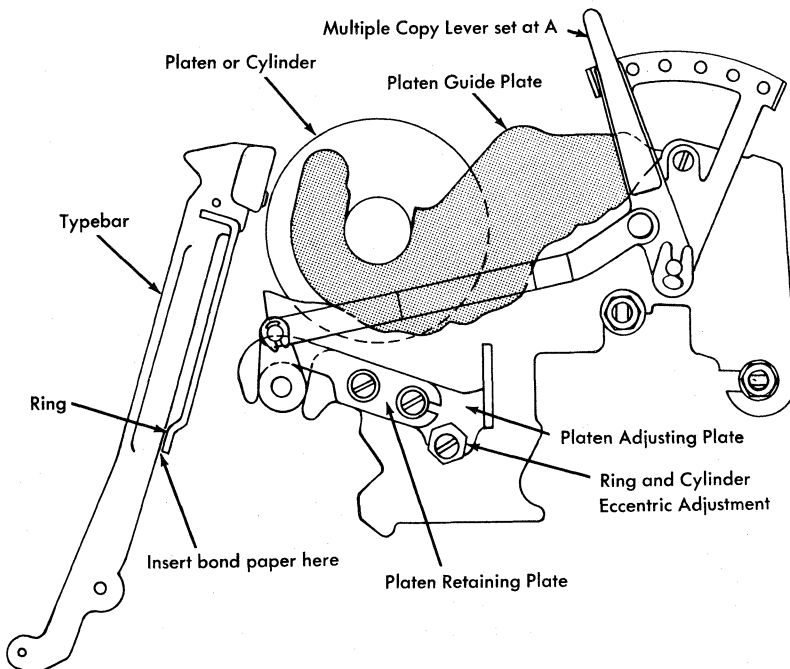
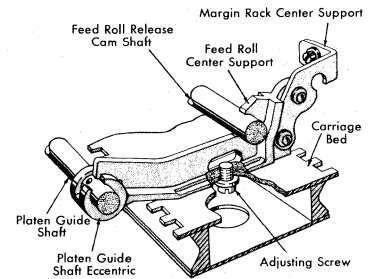

Figure 20. Platen Ring and Cylinder Adjustment
Figure 19. Feed Roll Center Support Adjustment
4. Make the ring and cylinder adjustment by first loosening the feed roll center support screw through a hole in the bottom of the carriage bed (Figure 19). Loosen the rear screw in each platen retaining plate (Figure 20). Rotate the eccentric nuts in the platen adjusting plates.
To test for ring and cylinder, insert a sheet of bond paper into the typewriter and move the multiple copy lever to A. Place a piece of bond paper about one-half inch wide and four inches long, between the typebar and ring (Figure 20). The paper should be gripped tightly between the typebar and the ring when a typebar is held up to the platen with the thumb against the typebar at the ring. Place the paper between the ribbon and the paper on the platen, and, by holding the typebar as before, check that there is a slight drag as the test paper is withdrawn. Repeat this test at both
5. The feed roll center support must be repositioned to touch the eccentric collar on the platen guide shaft after any change in ring and cylinder adjustment. On carriages longer than 12 inches, loosen the margin rack center support(s) to reposition the feed roll center support(s) (Figure 19).